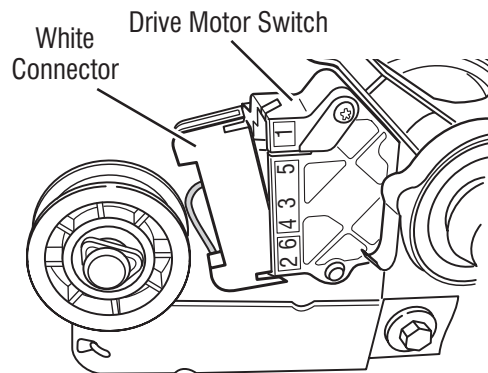

Figure 8 - Remove white connector.
8. Remove the white connector from the drive motor switch. See figure 8.